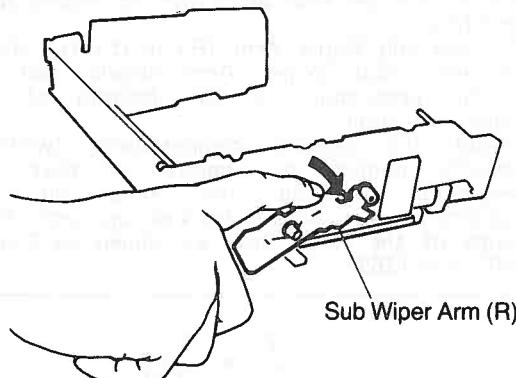

Figure M63
5. Press the sub wiper arm (R) to direction indicated by arrow so that the sub wiper arm (R) comes to cassette down position (STOP1) completely as shown in Figure M63 and keep it.